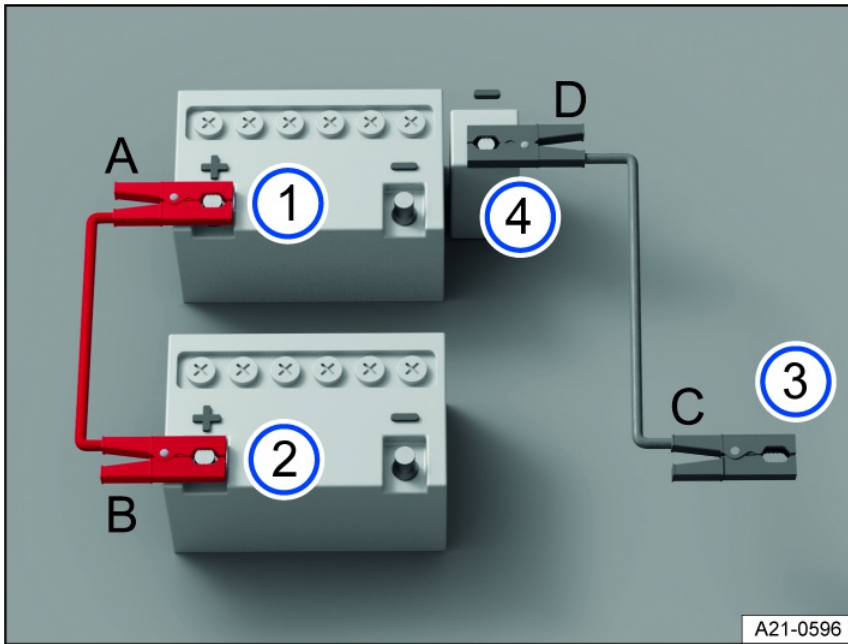
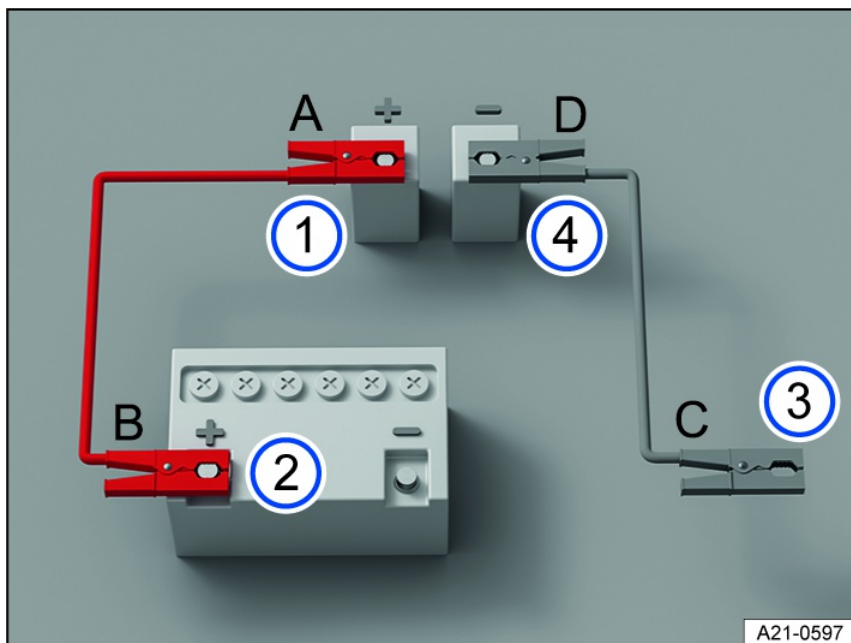

Fig. 162 Diagram for connecting jumper cables in vehicles with a 12 V vehicle battery in the engine compartment.
Fig. 163 Diagram for connecting jumper cables for vehicles with a 12 V vehicle battery in the vehicle interior.
Only connect the jumper cables in the sequence A – B – C – D *fig. 162*.
3. Connect one end of the red jumper cable to the positive battery terminal (+) of the 12 V vehicle battery with the discharged 12 V vehicle battery *fig. 162* ① = .
4. Connect the other end of the red jumper cable to the positive battery terminal (+) on the vehicle providing current *fig. 162* ②.
5. Connect one end of the black jumper cable preferably to the negative terminal (–) jump-start point on the vehicle with the 12 V vehicle battery providing current *fig. 162* ③.
Or: If there is no negative terminal (–) jump-start point, connect the end of the black jumper cable to a large metal part that is bolted securely to the engine block, or the engine block itself, on the vehicle with the 12 V vehicle battery providing current *fig. 162* ③.
6. Connect the other end of the black jumper cable to the negative terminal (–) jump-start point on the vehicle with the discharged 12 V vehicle battery *fig. 162* ⇒ .
Only connect the jumper cables in the sequence A – B – C – D *fig. 163*.
3. Connect one end of the red jumper cable to the positive jump-start point (+) of the vehicle with the discharged 12 V vehicle battery *fig. 163* ① ⇒ ⚠.
4. Connect the other end of the red jumper cable to the positive battery terminal (+) on the vehicle providing current *fig. 163* ②.
5. Connect one end of the black jumper cable preferably to the negative terminal (–) jump-start point on the vehicle with the 12 V vehicle battery providing current *fig. 163* ③.
- Or:** If there is no negative terminal (–) jump-start point, connect the end of the black jumper cable to a large metal part that is bolted securely to the engine block, or the engine block itself, on the vehicle with the 12 V vehicle battery providing current *fig. 163* ③.
6. Connect the other end of the black jumper cable to the negative terminal (–) jump-start point on the vehicle with the discharged 12 V vehicle battery *fig. 163* ⇒ ⚠.
3. Once the vehicle has been jump-started, always disconnect the jumper cables in the order D – C – B – A *fig. 162* or *fig. 163*.